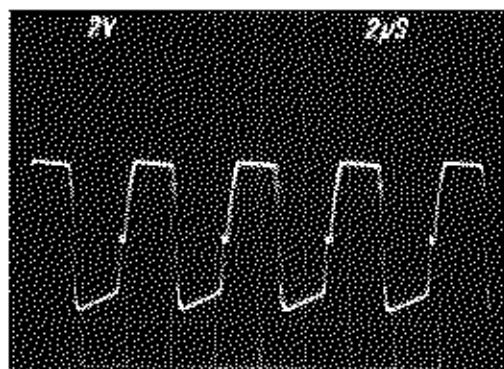
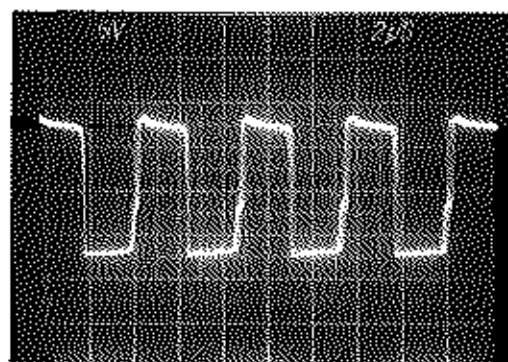

Fig. 3-52
Fig. 3-56
- The signal waveforms at various points are shown in the Fig. 3-52 to Fig. 3-56.